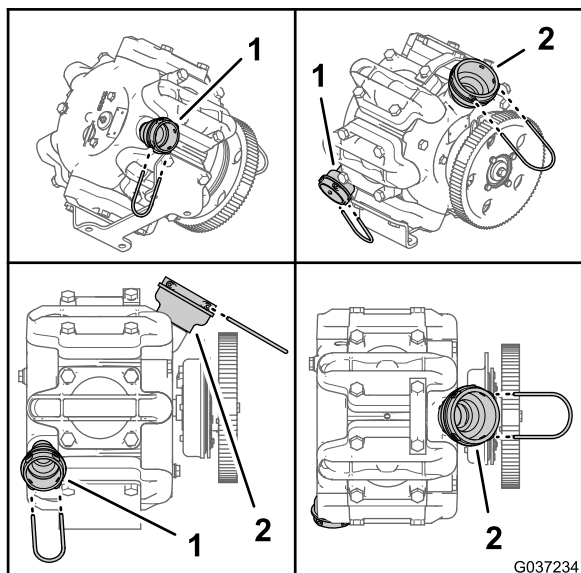
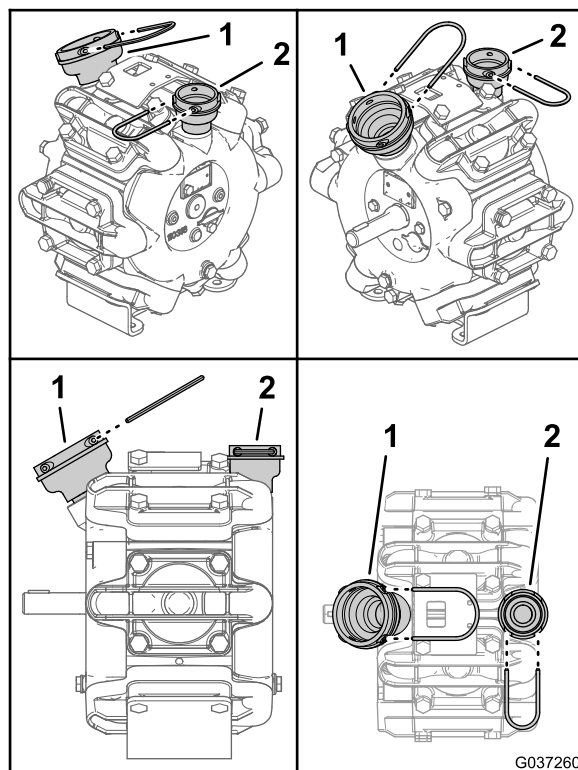

Figure 2
Figure 3
1. With the old sprayer pump removed from the machine, note the position of the retainer and retainer sockets of the pressure-port fitting; refer to Figure 2 or Figure 3.
2. Note the position of the retainer and retainer sockets of the supply-port fitting; refer to Figure 2 or Figure 3.
5. Tighten the fitting by hand until the retainer sockets are aligned the same as you noted of the old pump in step 2 of 2 Noting the Position of the Sprayer-Pump Fittings \(page 1\); refer to Figure 2 or Figure 3.
7. Tighten the fitting by hand until the retainer sockets are aligned the same as you noted of the old pump in step 1 of 2 Noting the Position of the Sprayer-Pump Fittings \(page 1\); refer to Figure 2 or Figure 3.